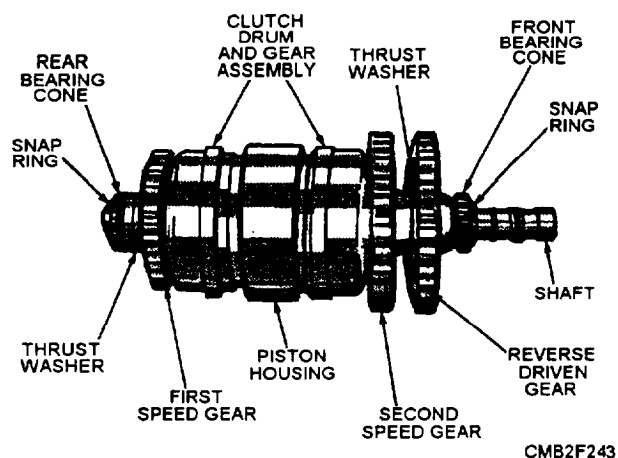

Figure 6-2.—Reverse clutch shaft.
- The REVERSE CLUTCH SHAFT (fig. 6-2) has a straight roller bearing at each end, with the reverse driven gear keyed to the front of the shaft. The shaft consists of first and second speed drive gears riding on bushings and is welded to the dual hydraulic clutch pack assemblies.